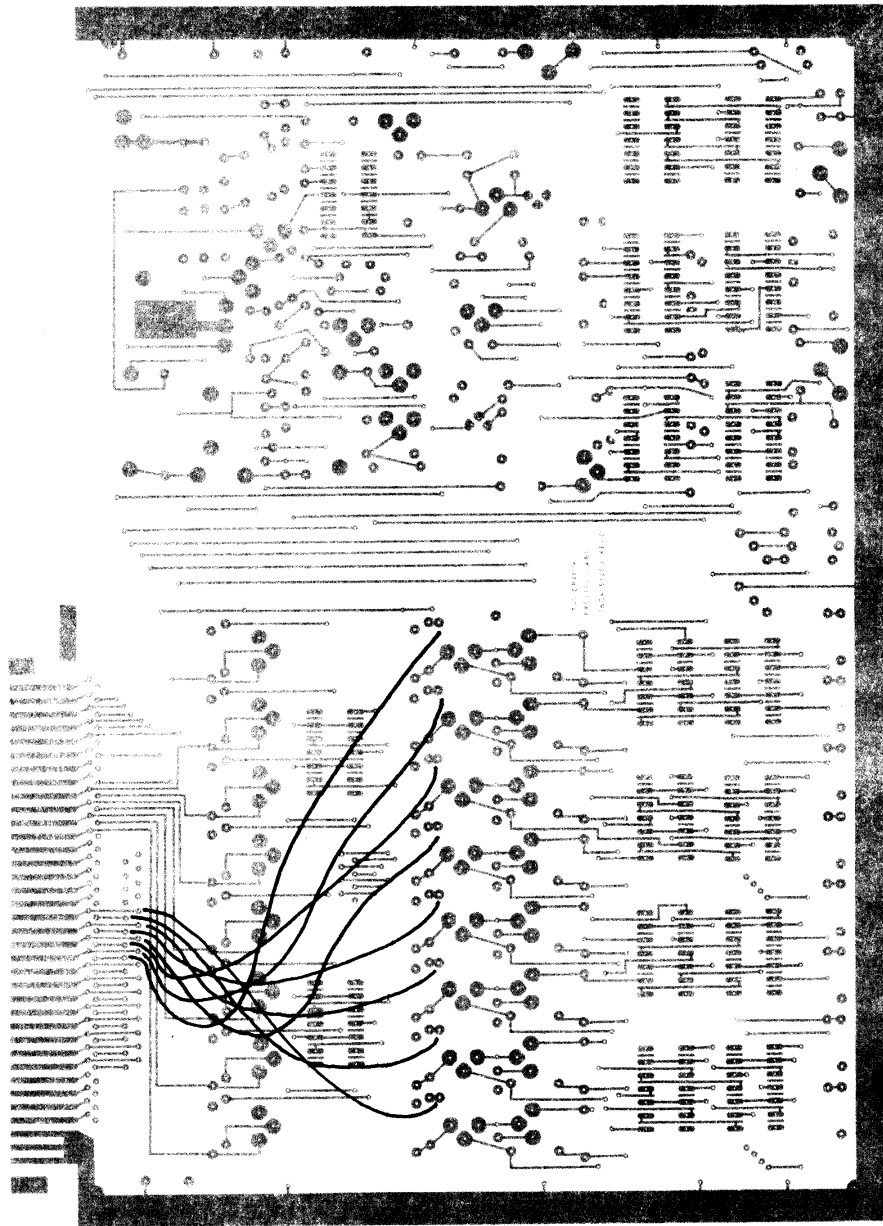

Figure 3. Data to PROGRAM SOCKET Wiring
- () Cut eight lengths of wire approximately 4-1/2 inches long. Strip 1/4 inch of insulation from each end. Install the wires as shown in Figure 3. Solder and cut off excess lead length.